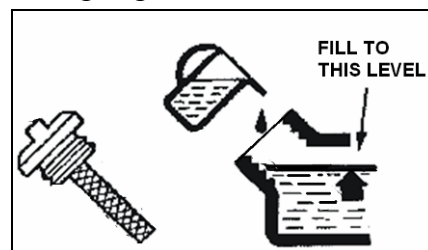

Figure 3- filling oil
3. Using a funnel, add the appropriate type and amount of oil into the crankcase. The crankcase is full when the oil level has reached the second thread from the lip of the opening (see figure 3).